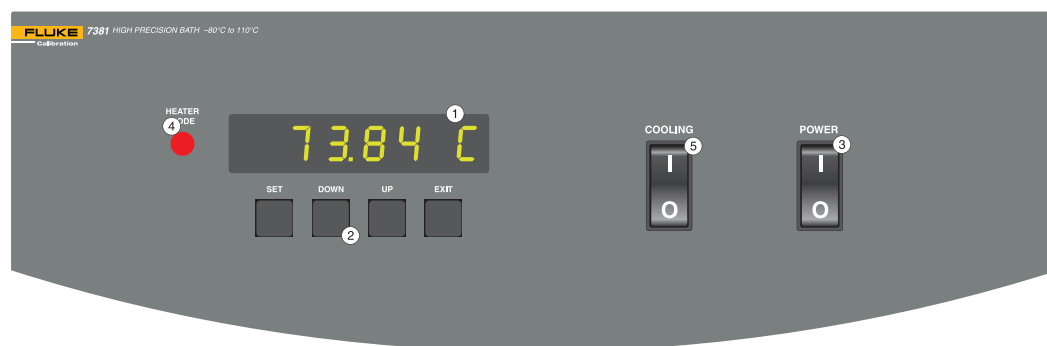

Figure 3 Front Control Panel
The following controls and indicators are present on the controller front panel (see Figure 3 below): (1) the digital LED display, (2) the control buttons, (3) the bath on/off power switch, (4) the control indicator light, and (5) the cooling on/off switch.